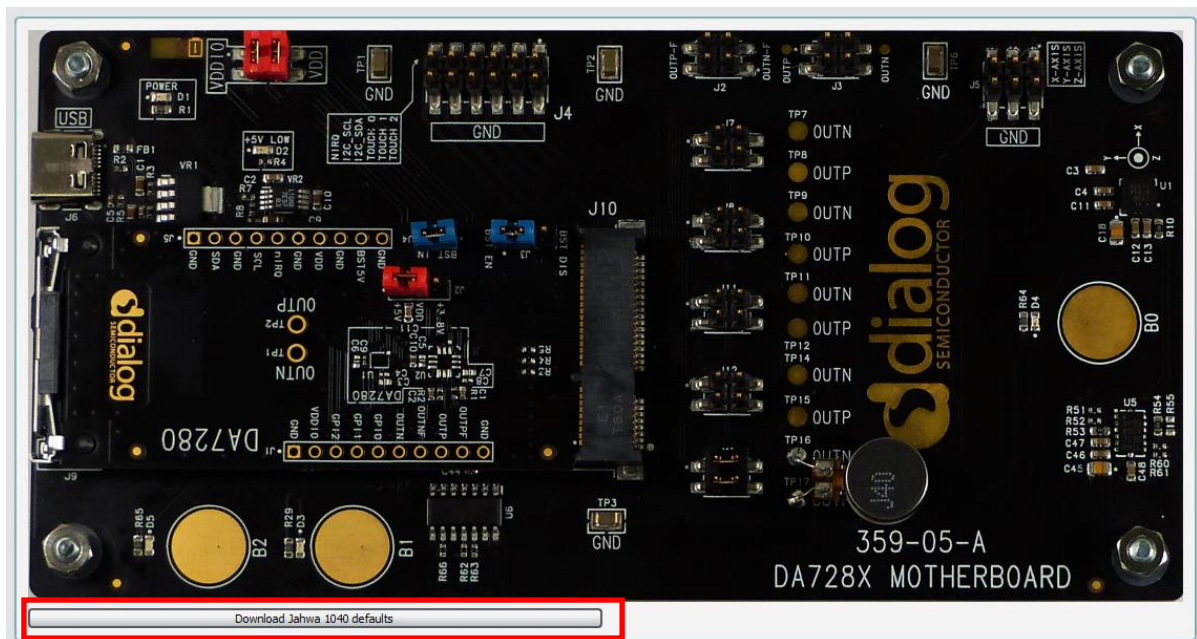

Figure 22. DA728x motherboard board setup with DA7280 daughterboard connected
6. Open the SmartCanvas DA728x GUI and click **Download Jahwa 1040 defaults** as shown in Figure 22. This sets up the DA7280 daughterboard to work with the CapSense buttons (B0, B1, and B2) on the DA728x Motherboard.
When the SmartCanvas DA728x GUI is started and the DA728x motherboard is connected to a PC through the USB cable, a dialog appears as shown in Figure 22. Click the **Download Jahwa 1040 defaults** option to set DA7280 in the edge triggered mode, so the CapSense buttons trigger haptic sequences.
When other daughterboards such as DA7281 (359-07) or DA7282 (359-08) are connected to the DA728x motherboard, the diagram shown in Figure 22 changes according to the connected daughterboard. No diagram is displayed for the DA7283 daughterboard (359-09), as it has no I2C access and is therefore not able to communicate with the SmartCanvas DA728x GUI.